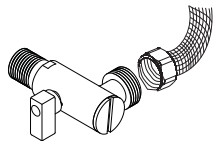

Figure 3
3. Connect the angle valve filter, water supply hose in sequence as Figure 3.